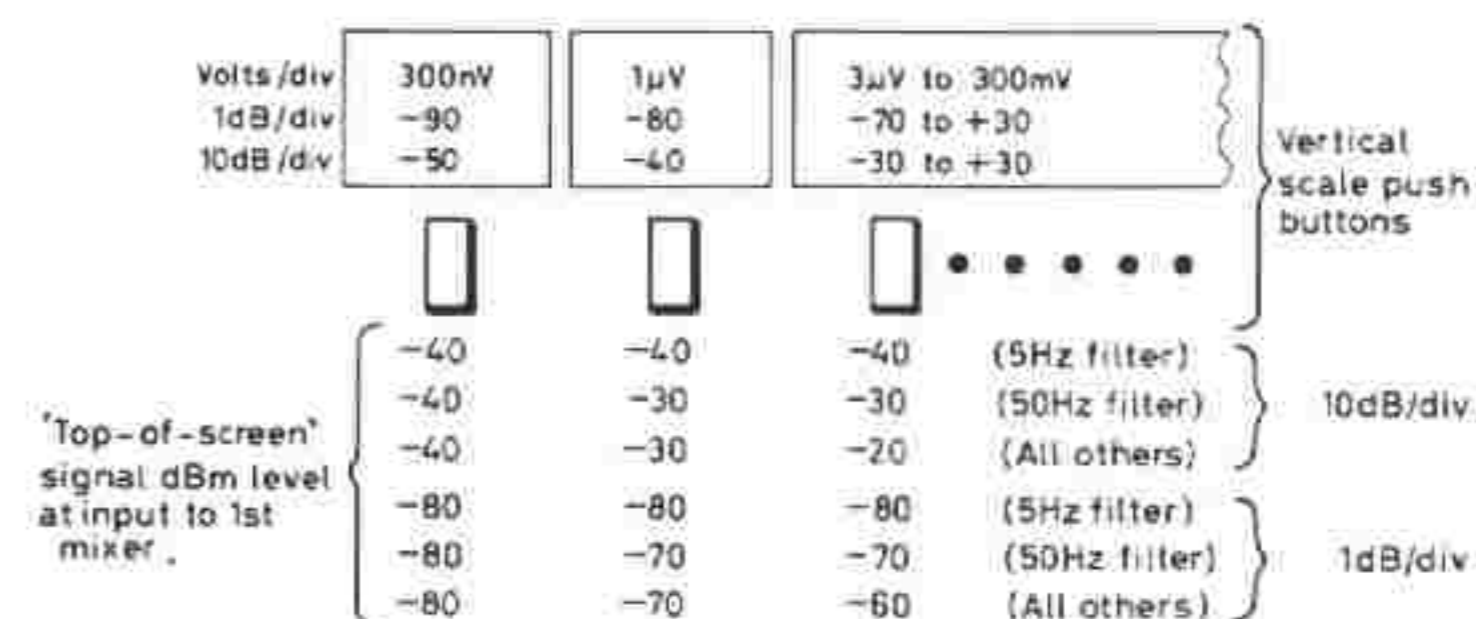

Fig. 2.2 Signal levels at input of first mixer
**(17) HORIZONTAL SCALE :** This nine position push button switch selects sweep widths from 20 Hz/division to 10 MHz/division when used in conjunction with the RANGE (20) switch. Normally it is unnecessary to know the filter bandwidth in use at any given time, as this is automatically selected. Should the bandwidth need to be known, however, it can be read from the table above the push buttons for kHz/division and below for MHz/division; the numbers 1, 2 and 3 referring to the NARROW/NORMAL/WIDE setting of the FILTER BANDWIDTH push buttons (19).
**(18) SWEEP SPEED :** On all positions, the sweep speed automatically selected is the fastest sweep possible for negligible loss of amplitude of the spectral lines. However, for tuning in, counter setting or tracking generator use, it is sometimes desired to sweep more quickly even though it causes loss of amplitude and line broadening. To this end, the x5 button is provided which increases sweep speed by approximately the value stated up to 100 ms which is the fastest input data rate permitted by the storage system. The 100 s button provides a slow sweep for use with the X-Y recorder facility. The button is spring loaded to avoid it being left in the operated, and thus uncalibrated, state.
**(19) FILTER BANDWIDTH :** In the NORMAL '2' position a filter of approximately 1% of the sweep width (-3 dB point) is selected on all ranges. In the NARROW '1' position a filter 10 times narrower than this is selected (where possible) and in the WIDE '3' position a filter 10 times as wide is selected (where possible). The filter bandwidth selected at any time can be read from the table either side of the HORIZONTAL SCALE push buttons - see (17) above.
**(20) RANGE :** The kHz/DIV and MHz/DIV buttons are multipliers for the HORIZONTAL SCALE buttons. As the first local oscillator is phase locked in the kHz/DIV position and free running in the MHz/DIV position there can be several hundred kHz shift in centre frequency between the two positions. When changing from kHz/DIV to MHz/DIV this is no problem. When changing from MHz/DIV to kHz/DIV it is suggested that this should only be done using the 0.02 MHz/DIV position (200 kHz sweep) before switching to 10 kHz/DIV position (100 kHz sweep) and using the counter readout to assist if necessary.
**(21) VERTICAL SCALE :** Thirteen push buttons give input sensitivities in 10 dB steps from +30 dBm to -150 dBm (300 mV r.m.s./division to 300 nV r.m.s./division on LINEAR). The gain and attenuation throughout the receiver is automatically adjusted, depending on the filter in use, such that the i.f. amplifier noise is at the bottom of the 100 dB display consistent with the first signal mixer not operating at an input level greater than -20 dBm. See Fig. 2.2 for signal levels at first signal mixer.